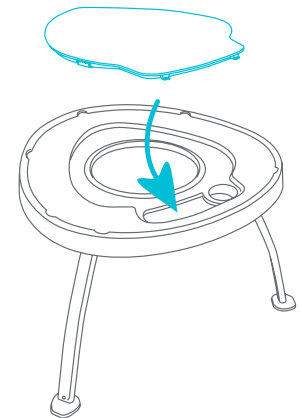

Fig. 4a
- Align the platform to the center opening, push the 2 tabs into the front first and press down firmly (Fig. 4a).